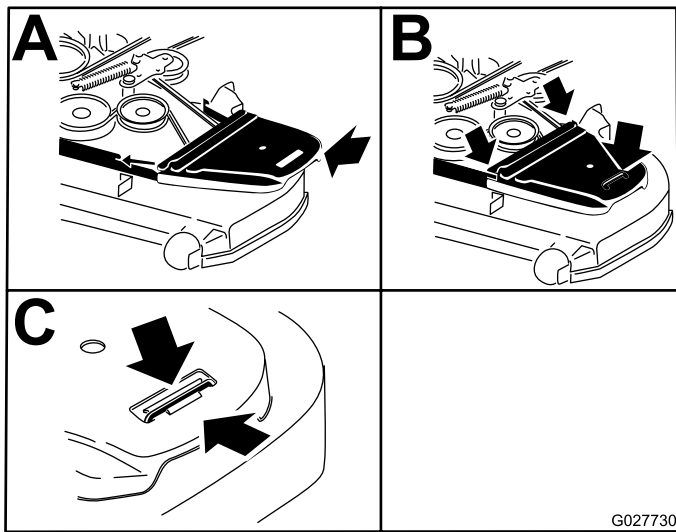

Figure 74
14. Install the belt covers (Figure 74).